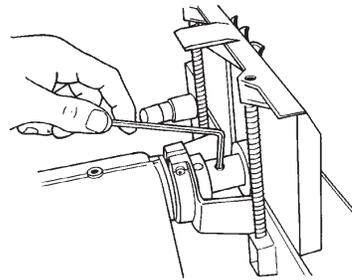

Figure B-106
88. Loosen the accessory mount lock and remove the extension table. Loosen the table height lock and remove the worktable. Place the saw blade and arbor in the lower saw guard cover (204).
89. Fit the lower saw guard's clamp on the spindle quill (59). Line up the arbor set screw with the spindle knob's set screw (where the spindle flat is located). Use a $5/32$ " Allen wrench to tighten the arbor set screw, as shown in Figure B-106.